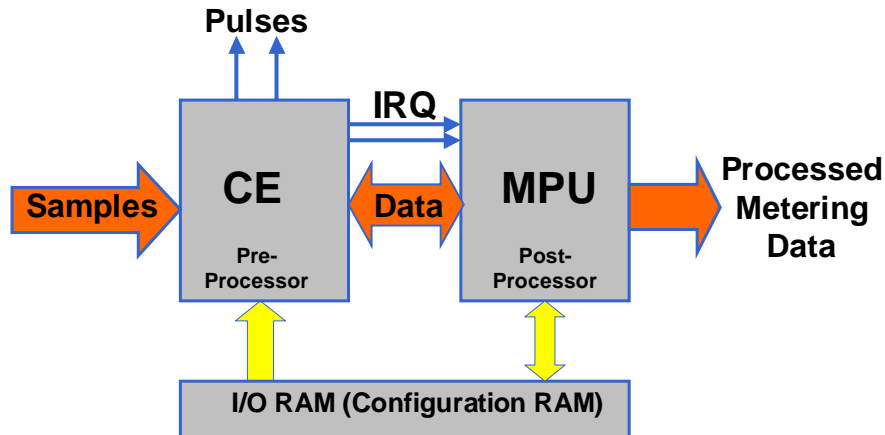

Figure 17: MPU/CE Data Flow
The data flow between CE and MPU is shown in Figure 17. In a typical application, the 32-bit compute engine (CE) sequentially processes the samples from the voltage inputs on pins IA, VA, IB, VB, IC, and VC performing calculations to measure active power (Wh), reactive power (VARh),  $A^2h$ , and  $V^2h$  for four-quadrant metering. These measurements are then accessed by the MPU, processed further and output using the peripheral devices available to the MPU.